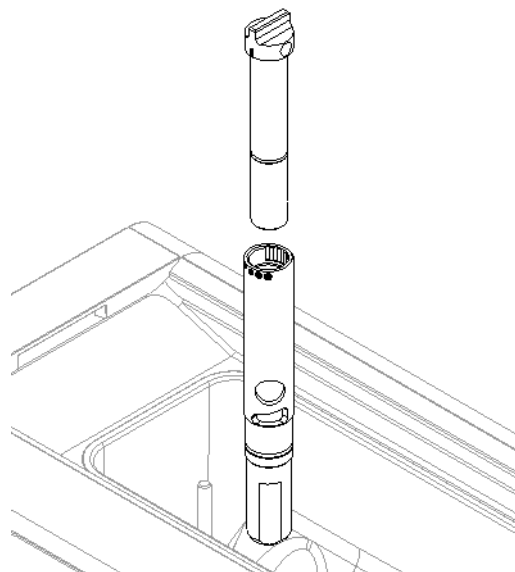

**figure 1**
**If the tap assembly has not been installed, the appliance cannot operate and the display shows the tap assembly open icon (see figure 1).**